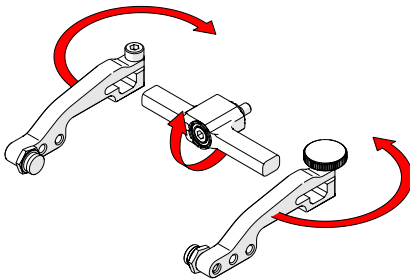

Fig. 164 - Flip yoke and reverse arms
3. Flip the yoke 180° and reverse the probe holder arms (Fig. 164).